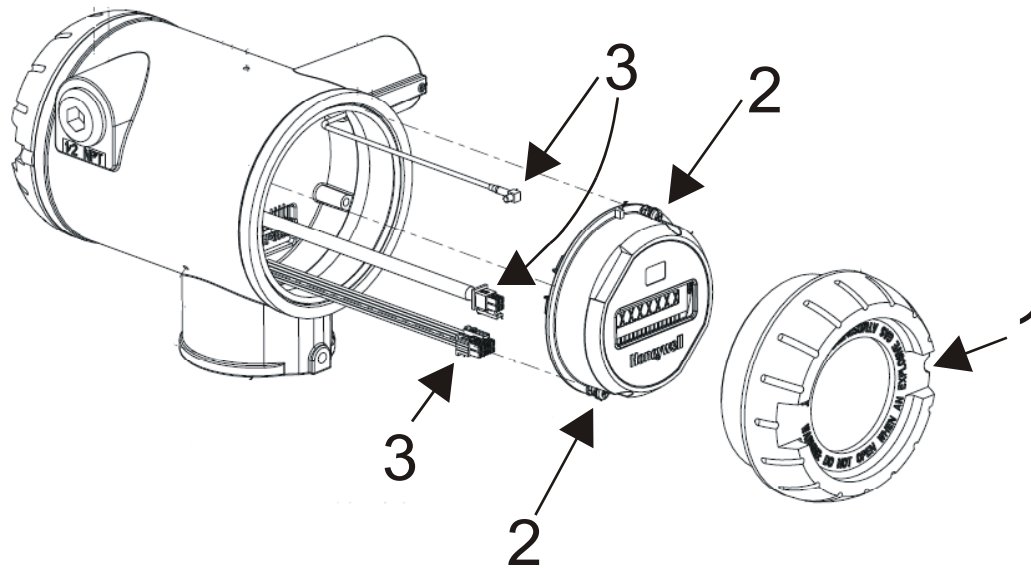

Figure 9 Sensor module removal and replacement
2	Loosen the M3 locking set screw on the display end-cap. See item 1 in Figure 9. Unscrew and remove the end cap.
3	Loosen the two screws on the sensor module. See items 2 in Figure 9.
4	Disconnect each connector on the sensor module. See items 3 in Figure 9.